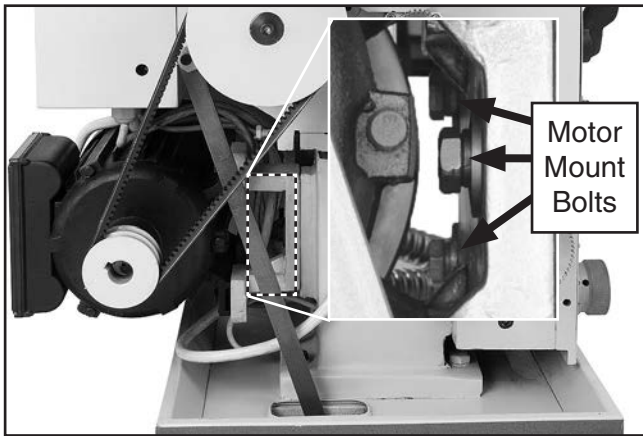

Figure 111. Location of motor mount bolts.
3. Loosen the motor mount bolts shown in **Figure 111**, and slide the motor up, remove the belts.